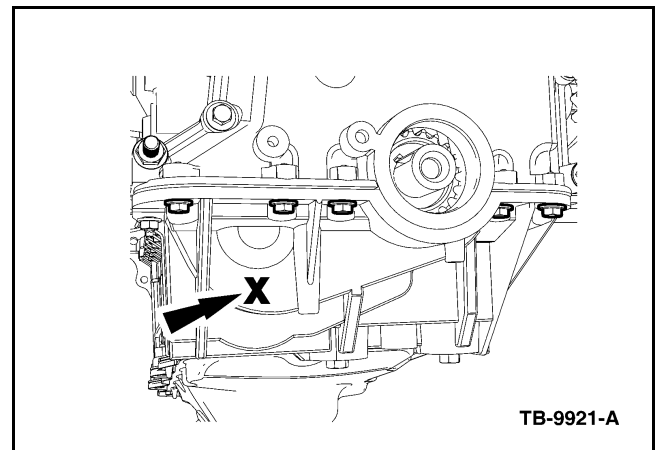

Figure 1 - Article 10-18-11
1. Using a stethoscope, check for rattle-type noise near the front of the engine block cradle. (Figure 1)